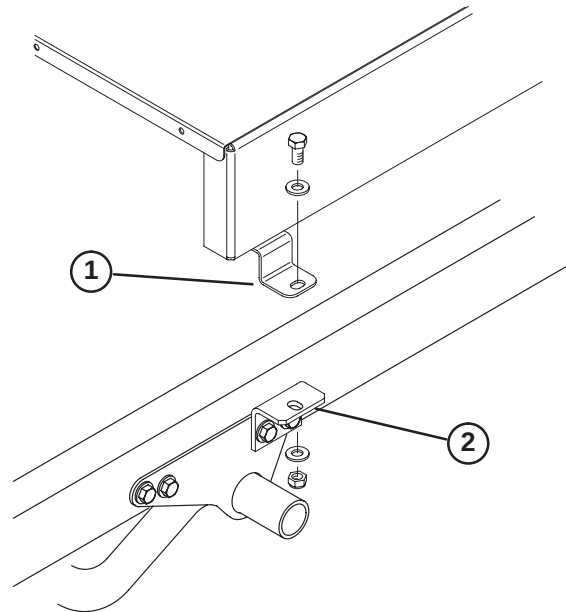
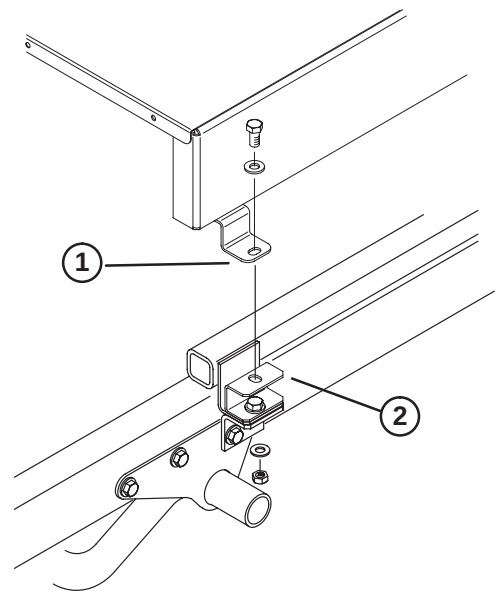

Figure 8
Figure 9
- Loosely secure top of each attachment bracket (Fig. 8) or spacer mount (Fig. 9) to mounting tab on each side of topdresser with a 1/2-13 x 1" lg. capscrew, (2) flatwashers and locknuts. Tighten all fasteners.